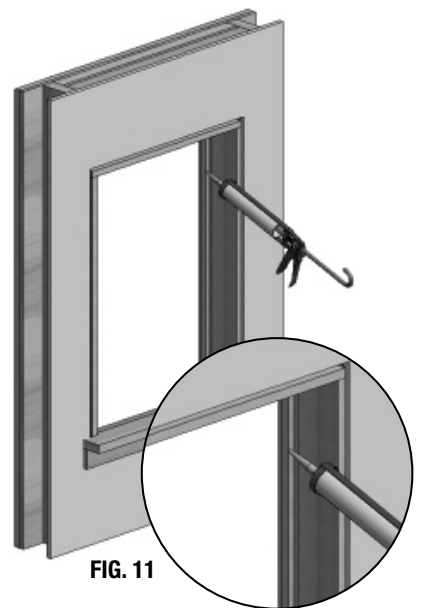

FIG. 11
- H) Apply silicone to interior joints of the exterior stops along both side jambs and head jamb. (Fig. 11)